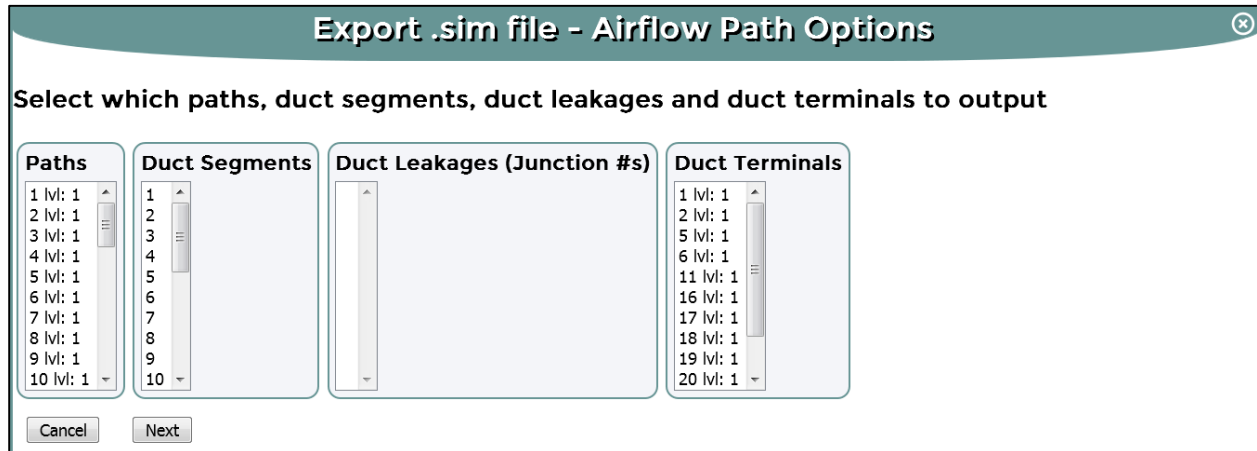

Figure 10. Output airflow results (path, duct segments, duct leakages, and/or duct terminal selection)
12. Select the paths, duct segments, duct leakages and/or duct terminals to output airflow results for. “Paths” are airflow elements such as doors, windows, and wall leakages. You must select at least one item (Figure 10).